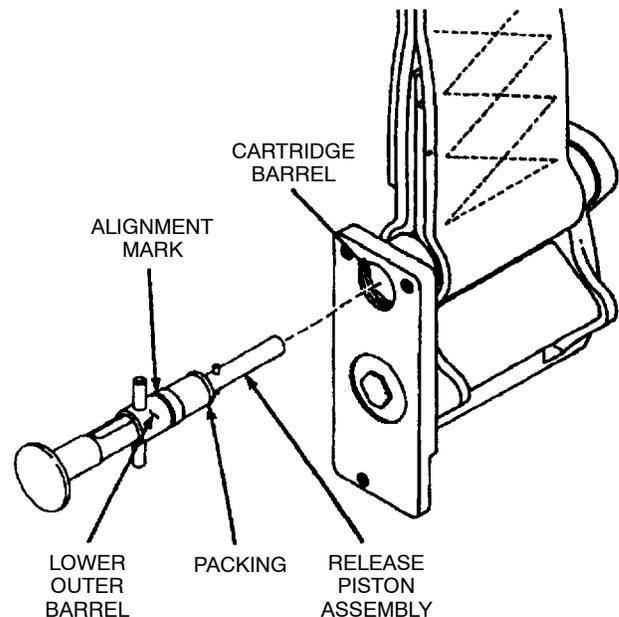

Figure 26. Hold Release Piston O-Ring Installation Tool
(4) Hold release piston O-ring installation tool at lower outer barrel and insert release piston and packing into cartridge barrel (Figure 26).